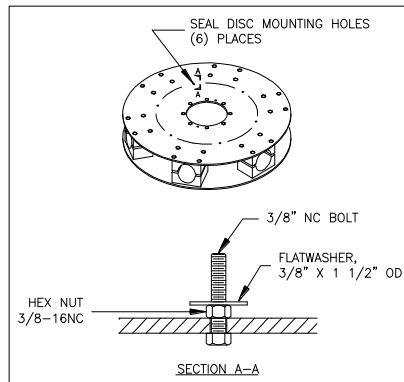

Figure 6
Install 3/8" NC bolts at six (6) places on top hub plate (See Figure 6). Threaded portion of bolts must be pointing up to mount seal disc. Install lock washer, nut, and flat washer on each bolt. Tighten 3/8" NC nuts to 15 ft-lb (lubricated) and 20 ft-lb (dry).